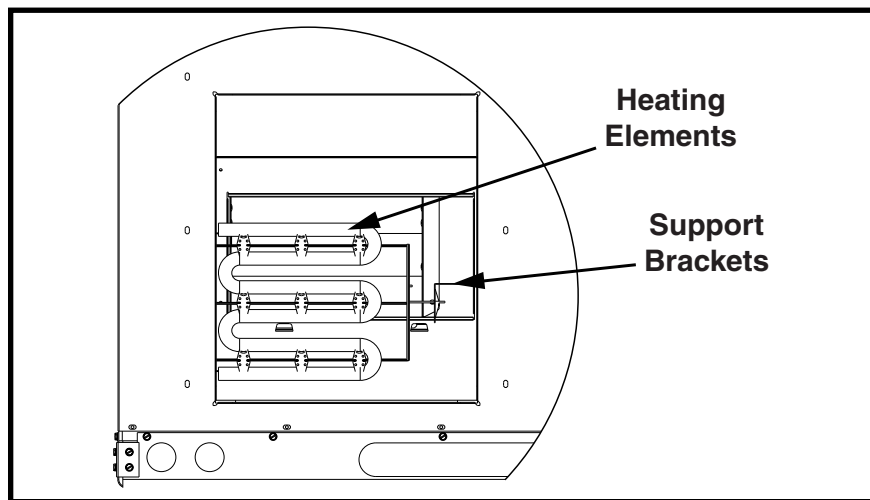

Figure 3. Element Support Bracket
**NOTE:** Make sure the element support rod is inserted into the support bracket. Fasten the heater with the same screws used to secure the close-off plates. See Figure 3 \(page 5\).